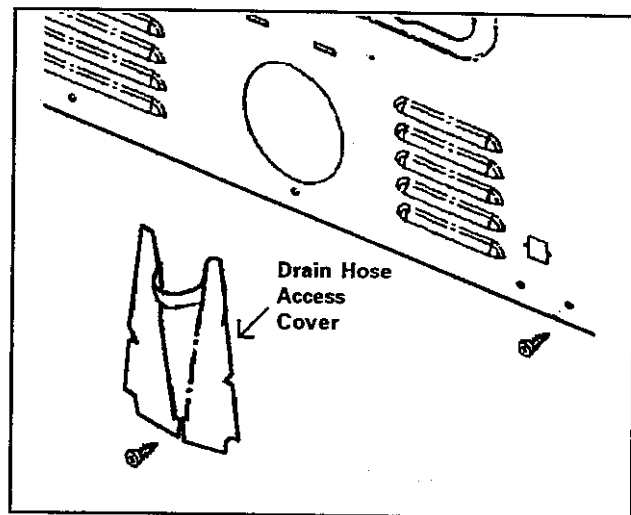

Figure 6-10
3. Remove the ¼" hex-head screw securing the drain hose shield. Remove shield (Figure 6-10).